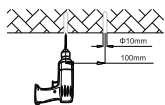

Figure 3
Step 1: Mark with a pen or sharp tool on the mounting surface and drill. (Figure 3)